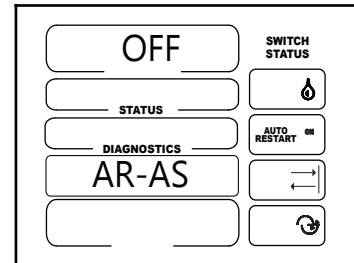

Figure 28-1
The auto reverse/auto stop constant enables (on) or disables (off) the auto reverse/auto stop buttons and function. AR/AS must be set to on (enabled) for either of the AR/AS options to be active. The factory default is off. See figure 28-1.
1. AR-AS should be flashing. See figure 28-1.